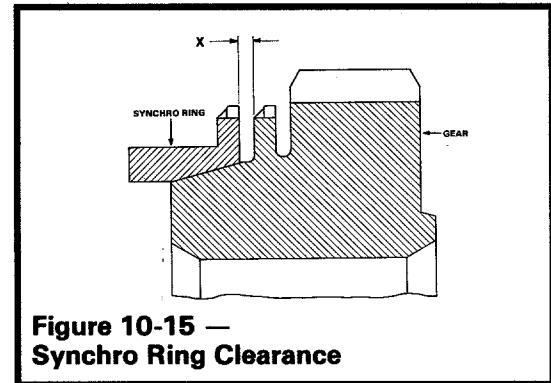

Figure 10-15 — Synchro Ring Clearance
- Measure the distance **X** by pushing the synchro ring (42 & 43) onto the respective gear (49 & 41) (**Figure 10-15**). The synchro ring should be replaced when **X** is .020 inches or less.
- Thrust washer (43) clearance between shaft and inner diameter must be less than .008 inches. Replace if greater than .008 inches.
- The governor sleeve (8) should be inspected. If the thickness, **t**, is less than .040 inches, replace the sleeve (**Figure 10-15**).
- Inspect clutch hub (46), inserts (47) and sleeve (48) and replace if severe wear or damage exists.
- Inspect the shift rod (71) and replace if the diameter is less than .276 inches.